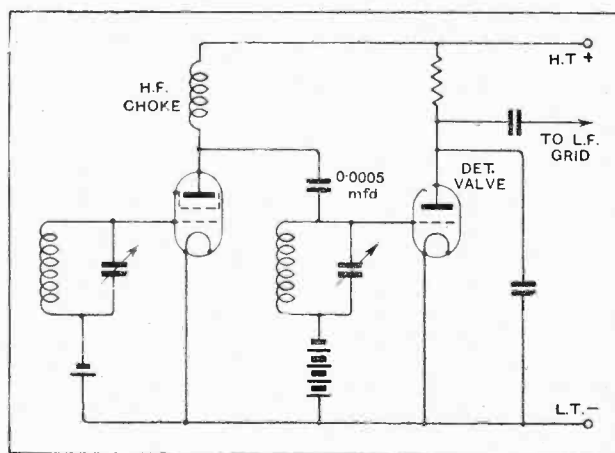

Fig. 1.—Typical parallel-feed coupling for a screen-grid H.F. amplifier.
H.F. choke coils which are to be suitable for all the circuit arrangements to be found in modern radio receivers must, however, possess an additional property which is of the utmost importance in certain circumstances. This property is that the coil must show practically no sign whatsoever of "energy absorption" when voltages are applied to it at the wavelength or frequency bands for which it is to be used. It is a comparatively simple matter to design a choke coil which will give very low "absorption" over a small band of wavelengths such as 200-400 metres, and which will at the same time maintain an effective impedance of high order. When the waveband, however, is extended to cover, say, 200-2,000 metres, the problem becomes more difficult and requires careful experimental work for successful solution. Part of a circuit arrangement in a typical modern radio receiver calling for this special design of H.F. choke is shown in Fig. 1. The
Fig. 3 (a) and 3 (b).—Absorption curves of some representative chokes taken under conditions equivalent to the circuit of Fig. 1. Choke A in each case is of the dual astatic type; chokes B, C and D are non-astatic.